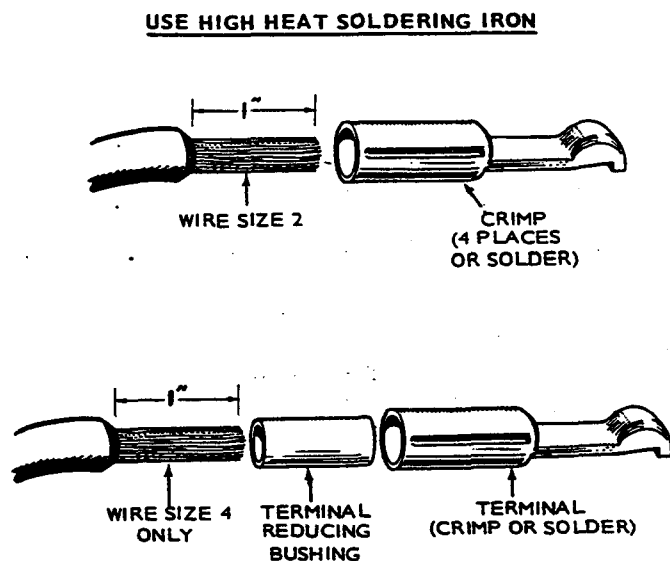

FIGURE 10. CABLE WIRE TO TERMINAL CONNECTIONS
2. If a heavy duty crimping tool is available, insert wire end fully into terminal as shown in Figure 10 for No. 2 and No. 4 wire. Then crimp terminal onto wire to make a good electrical connection. Crimp each terminal and wire end in the same way.
- a. Insert wire end fully into terminal as shown in Figure 10 for No. 2 and No. 4 wire. Use reducing sleeve with No. 4 wire. Hold wire and terminal horizontal while soldering, if possible.